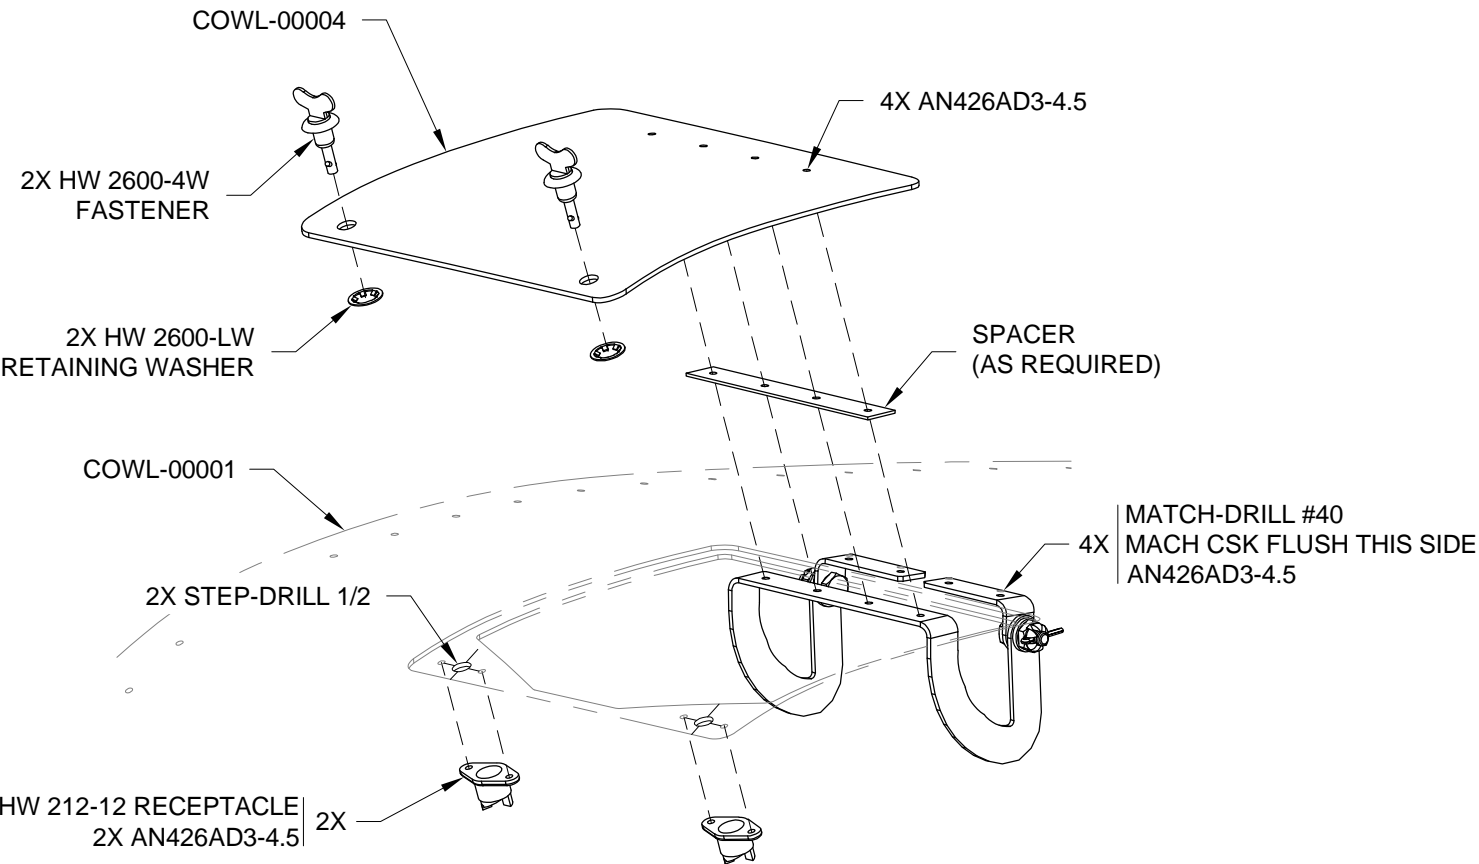

FIGURE 1: OIL DOOR HINGE
- Step 3:** Rivet the camloc receptacles to the top cowl as shown in Figure 1.
- Step 4:** Attach the camloc fasteners to the COWL-00004 Oil Door. The camloc retaining washers can be squeezed in-place using a deep 11/32 socket and a pair of large channel lock pliers. See Figure 1.
- Step 8:** Rotate the COWL-00005B Oil Door Hinge lugs until they lie flush with the inner surface of the top cowl. See Figure 1.
- Step 9:** If required, fabricate and insert a 3 3/8 [85.7 mm] by 1/2 [12.7 mm] match-drilled aluminum spacer between the COWL-00005A Oil Door Hinge gooseneck and the COWL-00004 Oil Door as shown in Figure 1. Adjust the thickness of the spacer until the COWL-00005B Oil Door Hinge lugs lie flush with the inner surface of the top cowl.
- Step 13:** Cleco, then rivet the COWL-00005B Oil Door Hinge lugs to the top cowl as shown in Figure 1.
- Step 14:** Rivet the COWL-00005A Oil Door Hinge gooseneck (and spacer) to the oil door as shown in Figure 1.